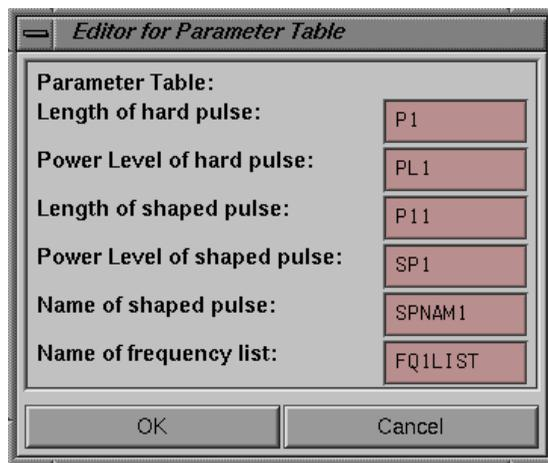

Figure 3.13 Define Parameter Table.
- The Define Parameter Table (Figure 3.13) command relates shape tool parameters to XWIN-NMR acquisition parameters. For instance the acquisition parameter SP1 may be related to the power level of the shaped pulse etc.